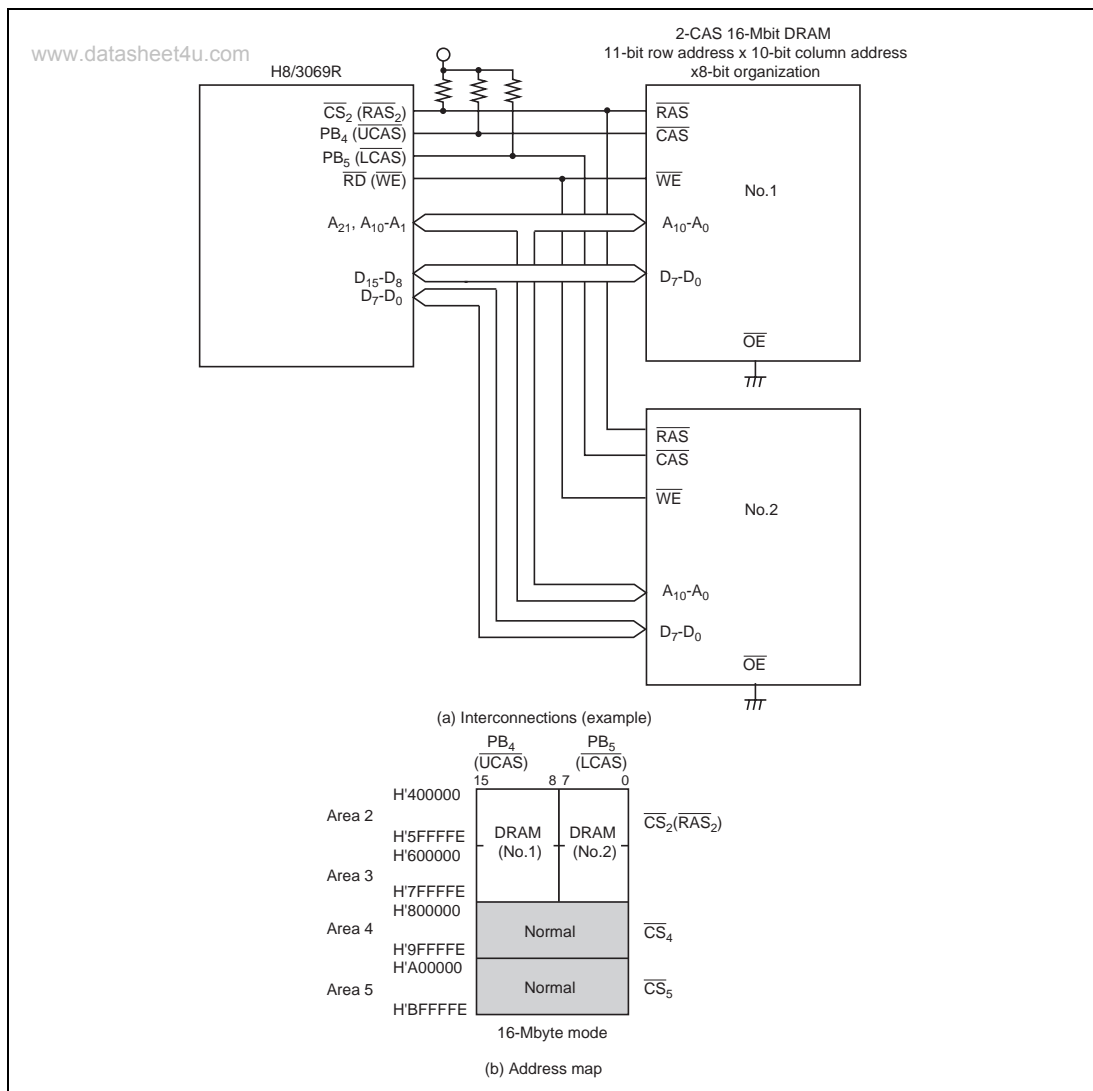

Figure 6.32 Interconnections and Address Map for 16-Mbit DRAMs with $\times 8$ -Bit Organization
- Figure 6.32 shows typical interconnections when using two 16-Mbit DRAMs using a $\times 8$ -bit organization, and the corresponding address map. The DRAMs used in this example are of the 11-bit row address \times 10-bit column address type. The \overline{CS}_2 pin is used as the common \overline{RAS} output pin for areas 2 and 3. When the \overline{DRAM} address space spans a number of contiguous areas, as in this example, the appropriate setting of bits DRAS2 to DRAS0 enables a single \overline{CS} pin to be used as the common \overline{RAS} output pin for a number of areas, and makes it possible to directly connect large-capacity DRAM with address space that spans a maximum of four areas. Any unused \overline{CS} pins (in this example, the \overline{CS}_3 pin) can be used as input/output ports.